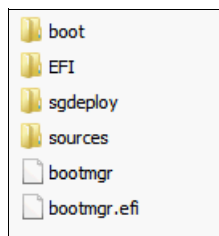

Figure 7-52 Contents of the USB key
3. Copy the contents from C:\sgshare\sgdeploy\WinPE_ScenarioOutput\Local_Win2008_R2_x64_EE\ISO to the USB key. The USB key now contains the folders and files that are shown in Figure 7-52.